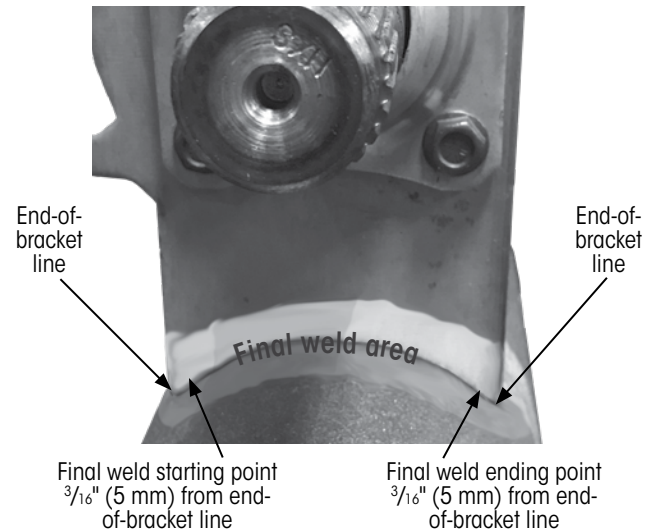
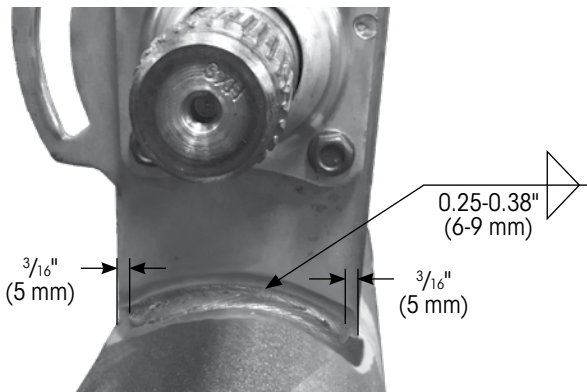

Figure 3: Weld placement layout
Figure 6: Final S-cam bracket weld
4. Using a felt-tip marker, **place** layout lines for the final weld on the axle tube (Figure 3).
- Weld size should be $\frac{1}{4}$ to $\frac{3}{8}$ inches (6 to 10 mm) and should stop $\frac{3}{16}$ inches (5 mm) from both ends (Figure 3 and Figure 6).